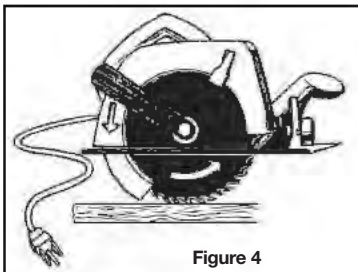

Figure 4
2. Place the saw blade on a piece of scrap lumber and press down until the teeth dig into the wood (Figure 4). This prevents the blade from turning when the locking nut is loosened or tightened. Some machines are provided with a mechanical locking device.